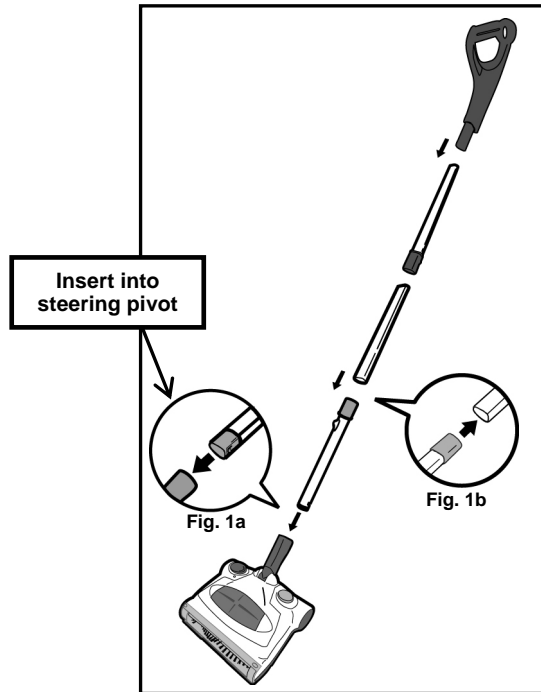

Fig. 1
1. Insert the lower extension tube into the steering pivot so that the tab snaps into place. (Fig. 1a) Push the extension tube into the lower extension tube. (Fig. 1b) Insert the extension tube into the lower extension tube. (Fig. 1) Insert the handle into the handle extension tube.